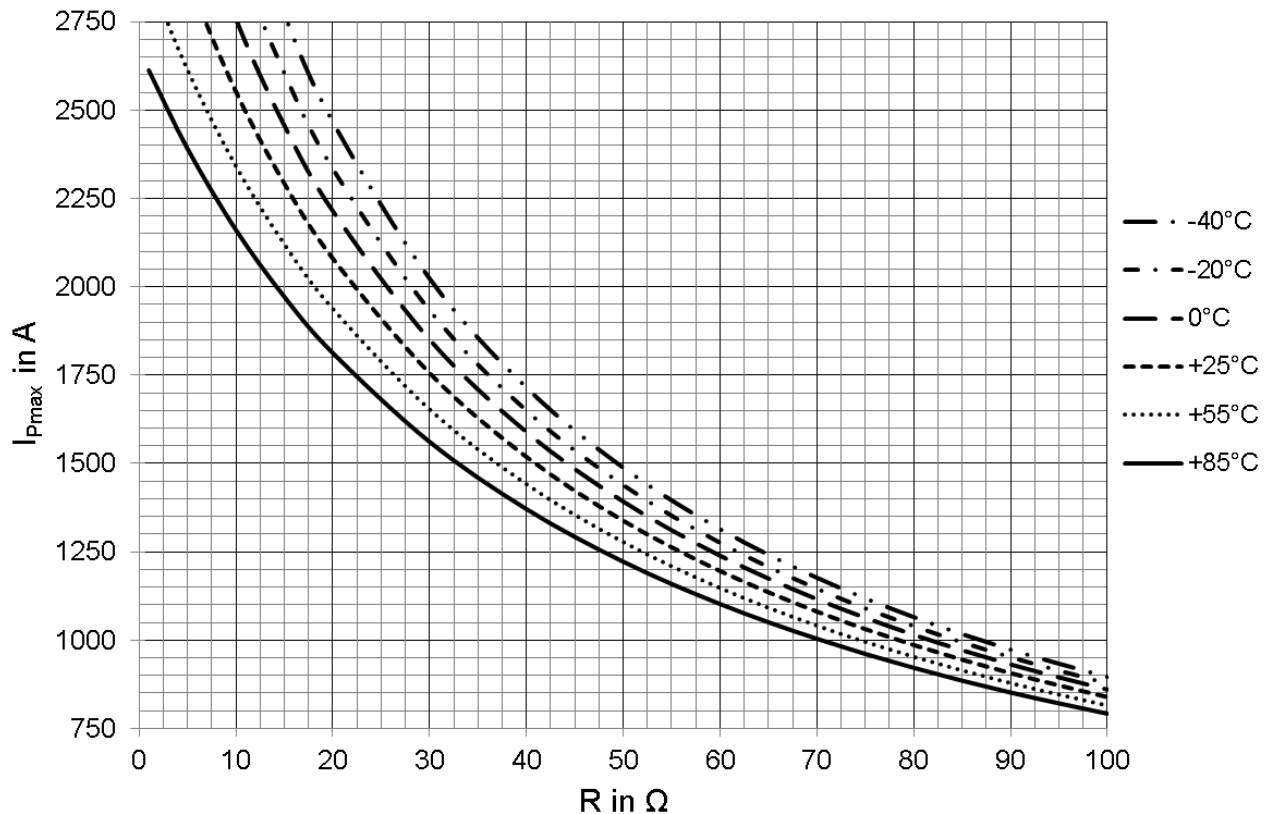

Fig. 1: $I_{P,max} = f(R_M) @ T_A$
* for $I_{P,max}$ see fig. 1 on page 2